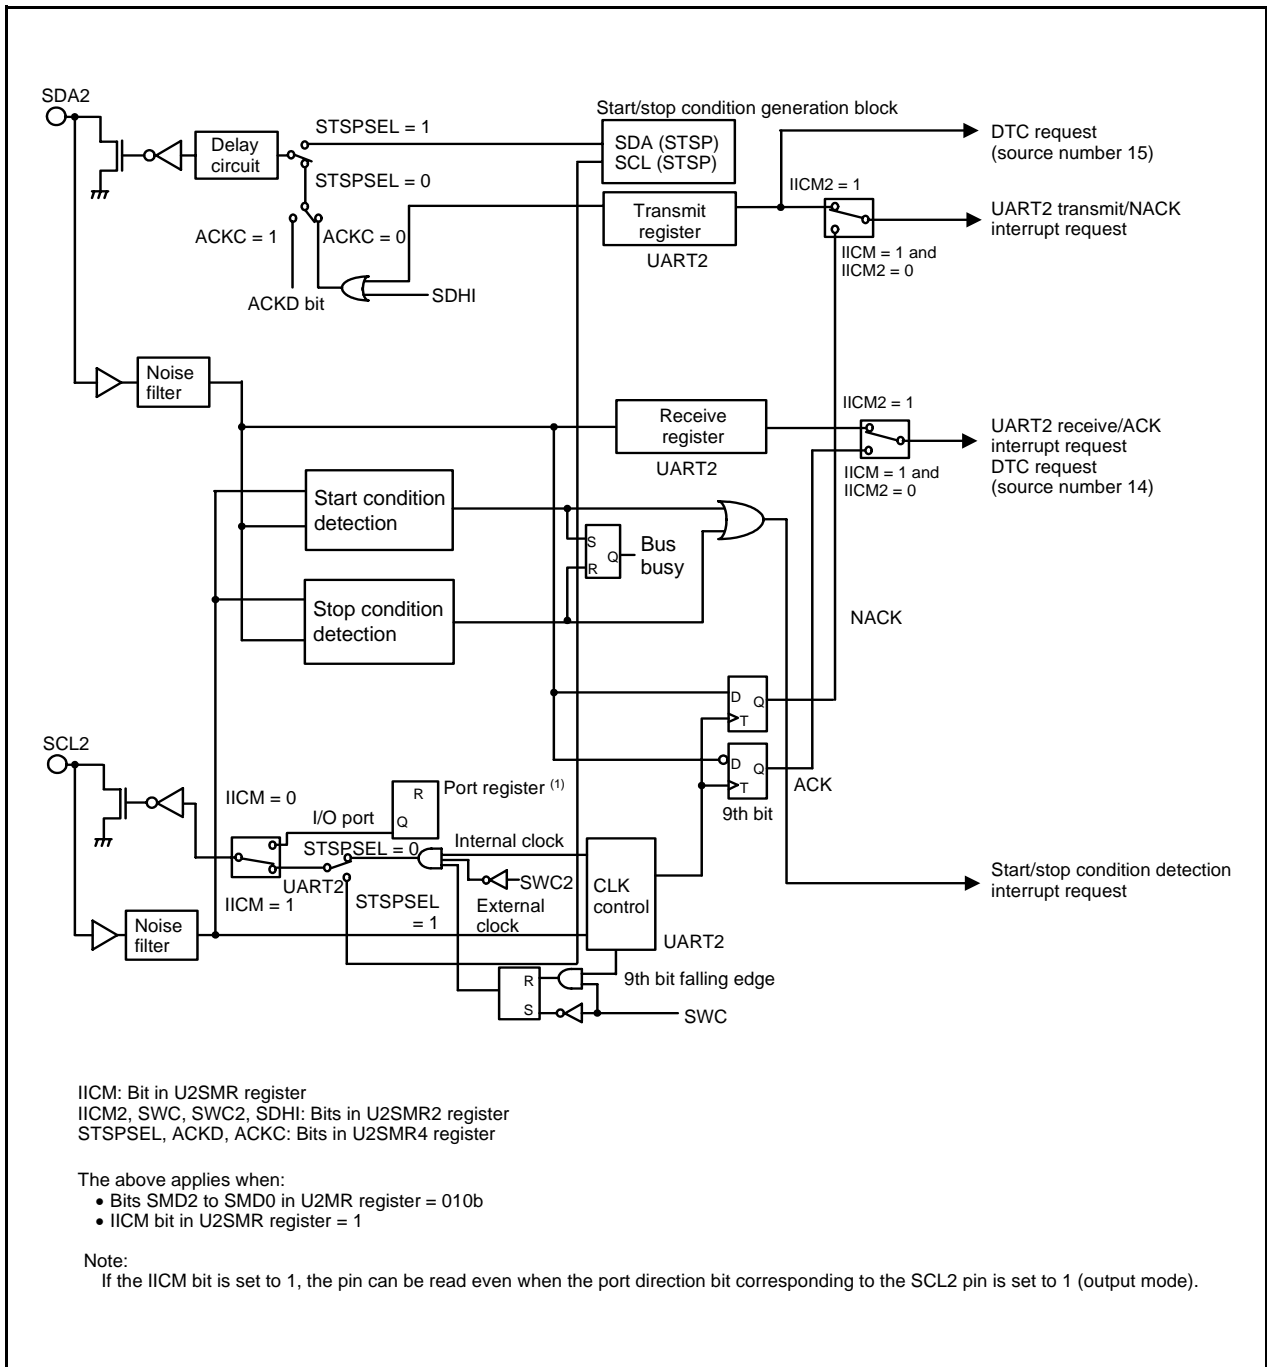
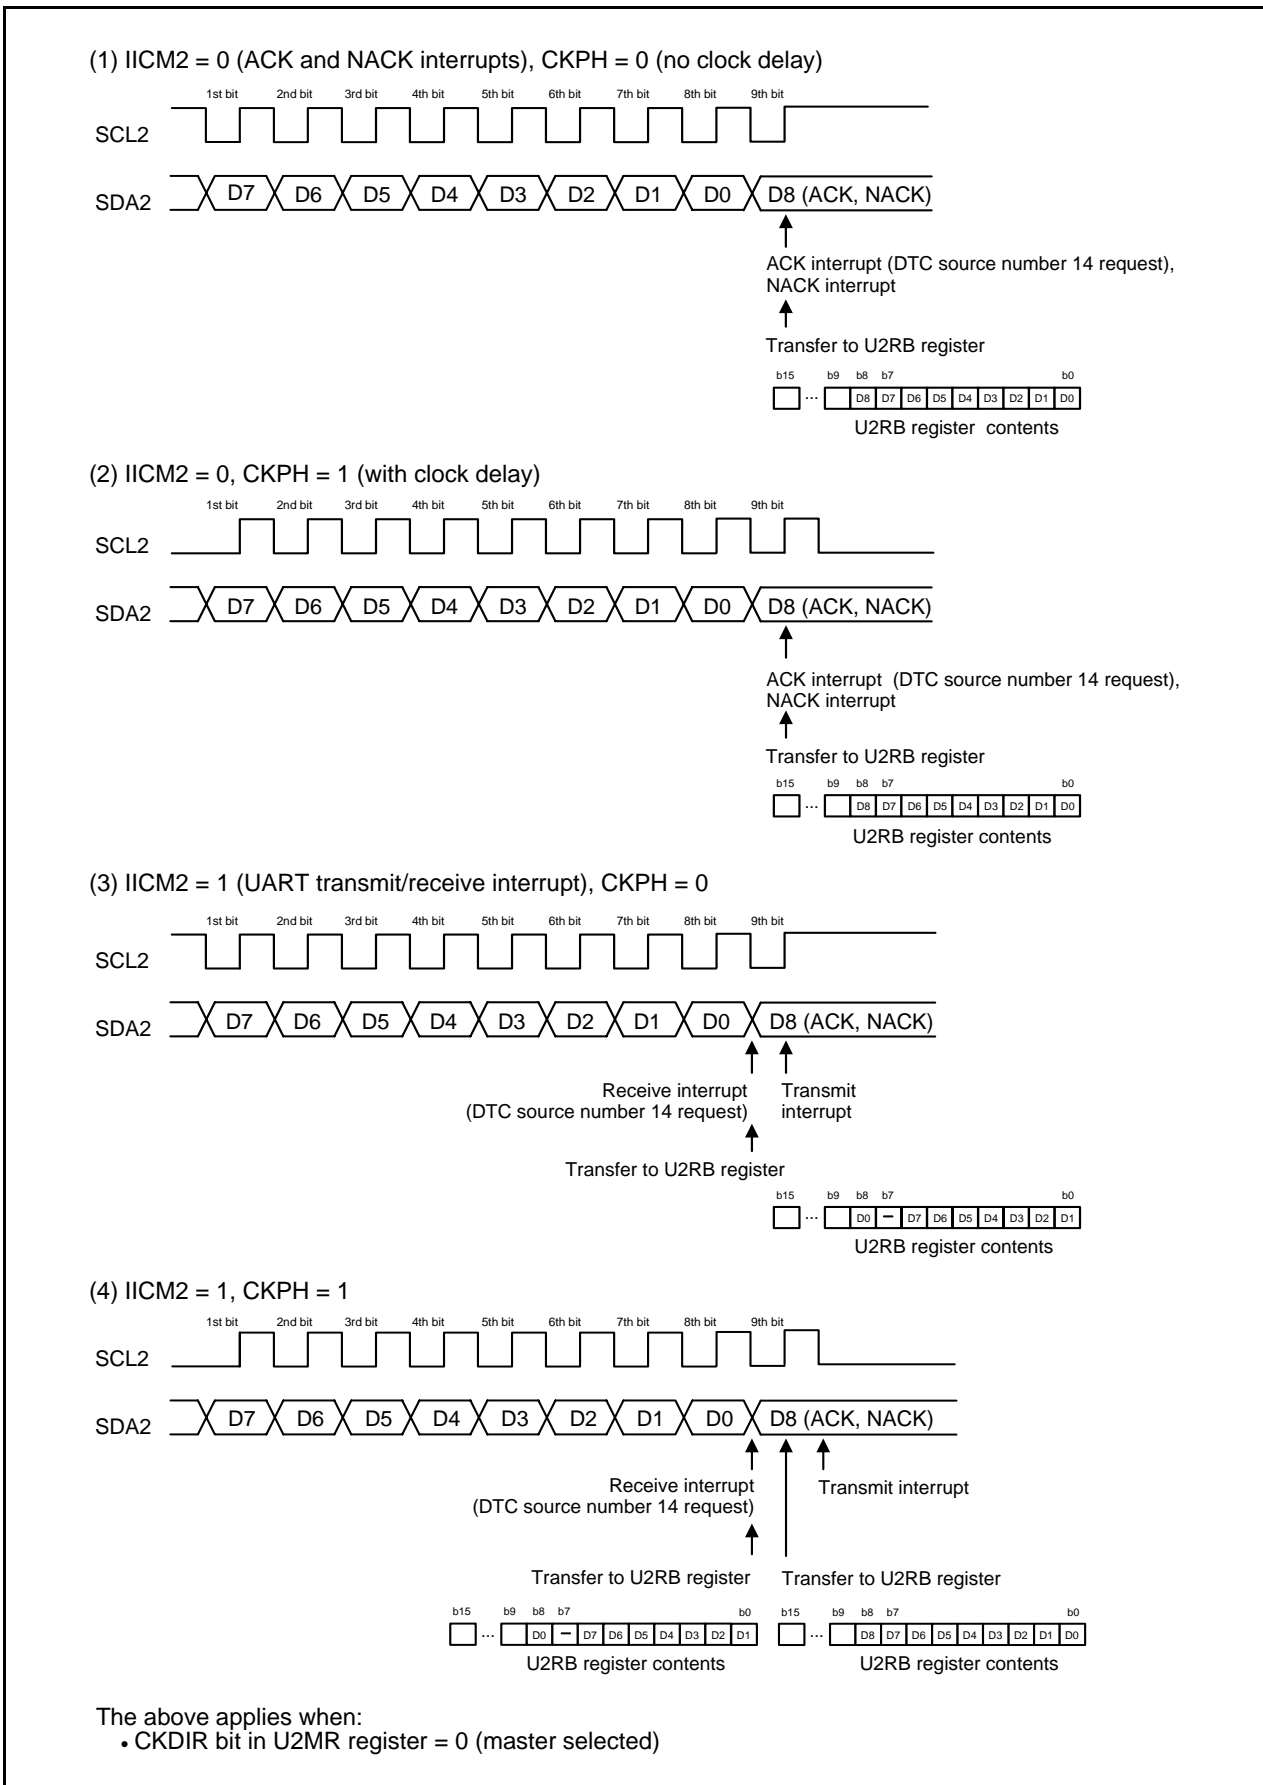

Figure 22.13 I²C Mode Block Diagram
Figure 22.14 Transfer to U2RB Register and Interrupt Timing
I²C mode is provided for use as a simplified I²C interface compatible mode. Table 22.9 lists the I²C Mode Specifications. Tables 22.10 and 22.11 list the registers used in I²C mode and the settings. Table 22.12 lists the I²C Mode Functions, Figure 22.13 shows an I²C Mode Block Diagram, and Figure 22.14 shows the Transfer to U2RB Register and Interrupt Timing.
- Refer to Figure 22.14 Transfer to U2RB Register and Interrupt Timing.
The transfer clock is used to transmit and receive data as is shown in **Figure 22.14 Transfer to U2RB Register and Interrupt Timing**.